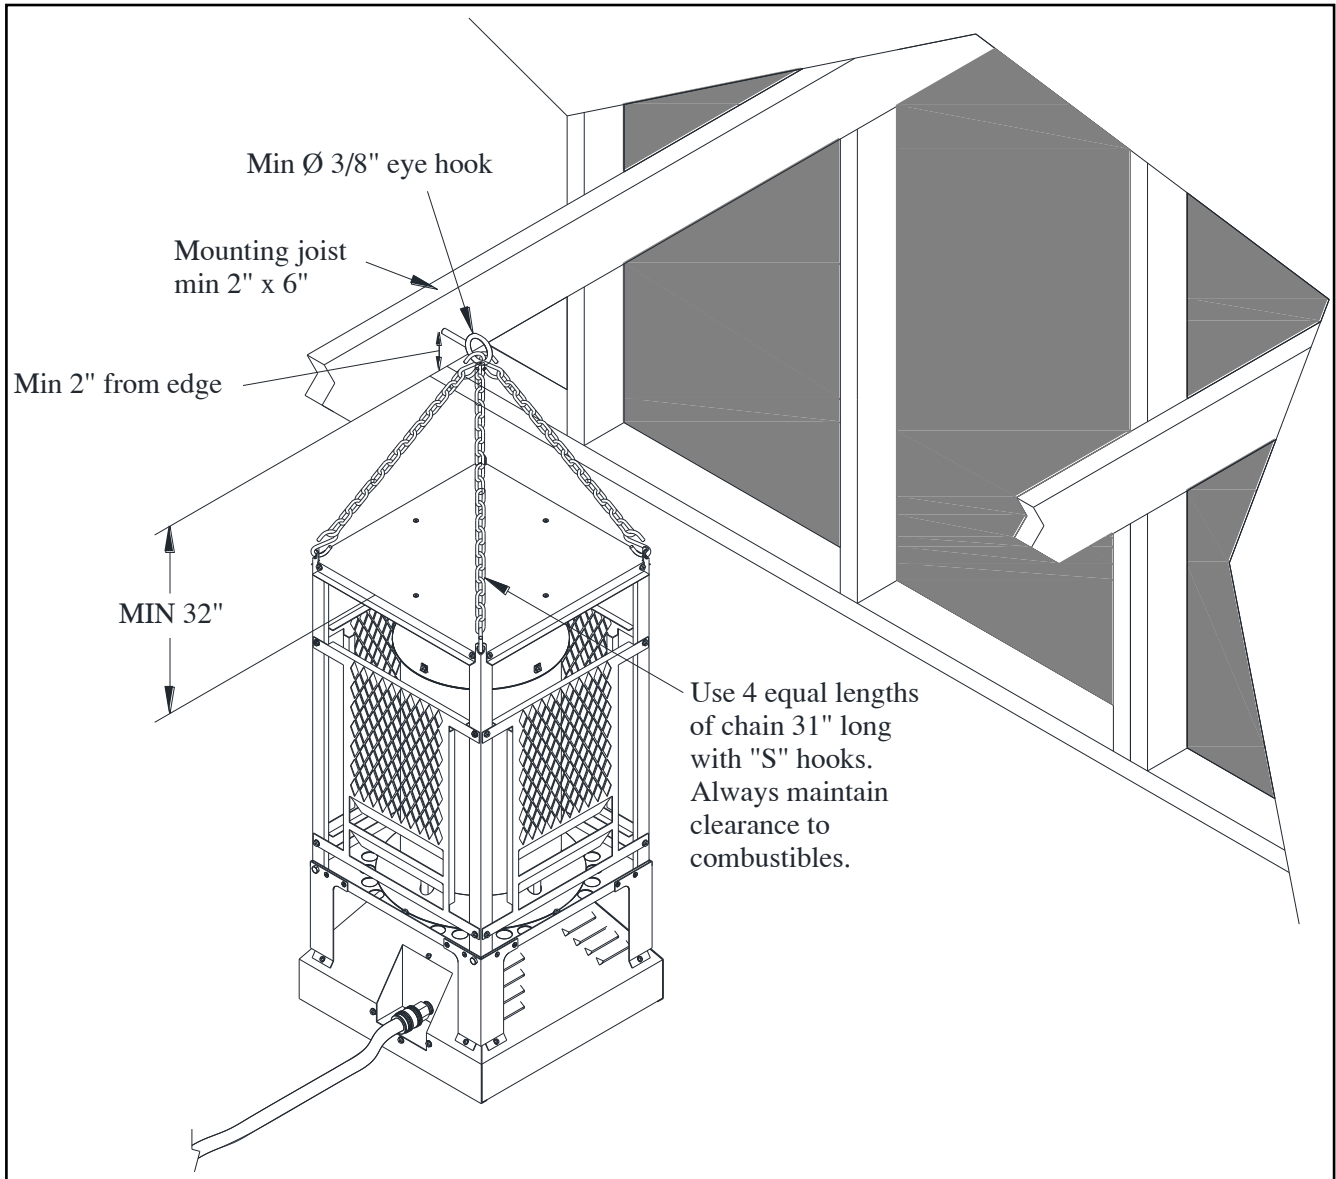

Figure 4
This heater is CSA approved for suspended use. When this heater is suspended it must be suspended as illustrated in Figure 4 below.
2. Turn knob A (Figure 4) slightly left towards the ignition position until reaching stop, press down and hold for five seconds (only pilot gas flows).